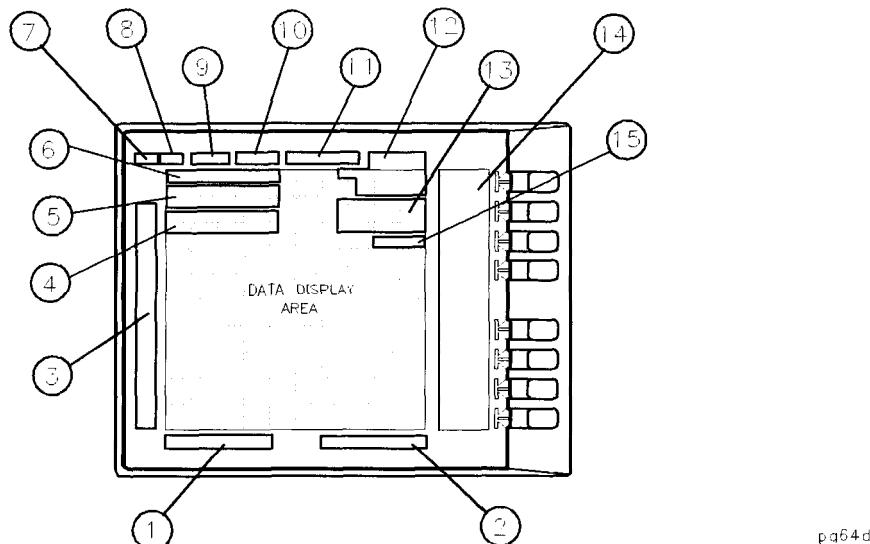

Figure 1-2. Analyzer Display (Single Channel, Cartesian Format)
2. **Display.** This shows the measurement data traces, measurement annotation, and **softkey** labels. The display is divided into specific information areas, illustrated in **Figure 1-2**.
Figure 1-2 illustrates the locations of the different information labels described below.
In addition to the full-screen display shown in Figure 1-2, a split display is available, as described in the “Making Measurements” chapter. In the split display mode, the analyzer provides information labels for each half of the display.